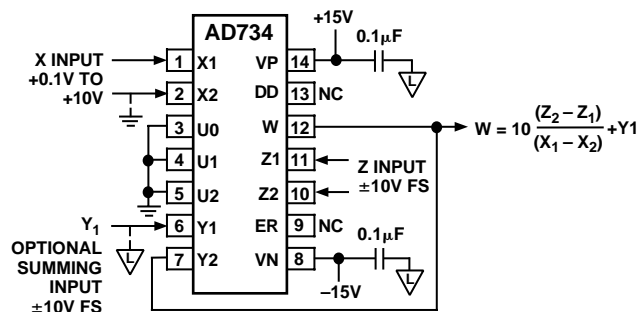

Figure 8. Standard (AD534) Divider Connection
the AD734 can be operated using the standard (AD534) divider connections (Figure 8), when the negative feedback path is established via the Y_2 input. Substituting W for Y_2 in Equation (2), we get
Figure 8 shows the connections for the standard (AD534) divider mode. Feedback from the output, W , is now taken to the $Y2$ (inverting) input, which, provided that the X -input is positive, establishes a negative feedback path. $Y1$ should normally be connected to the ground associated with the load circuit, but may optionally be used to sum a further signal to the output. If desired, the polarity of the Y -input connections can be reversed, with W connected to $Y1$ and $Y2$ used as the optional summation input. In this case, either the polarity of the X -input connections must be reversed, or the X -input voltage must be negative.